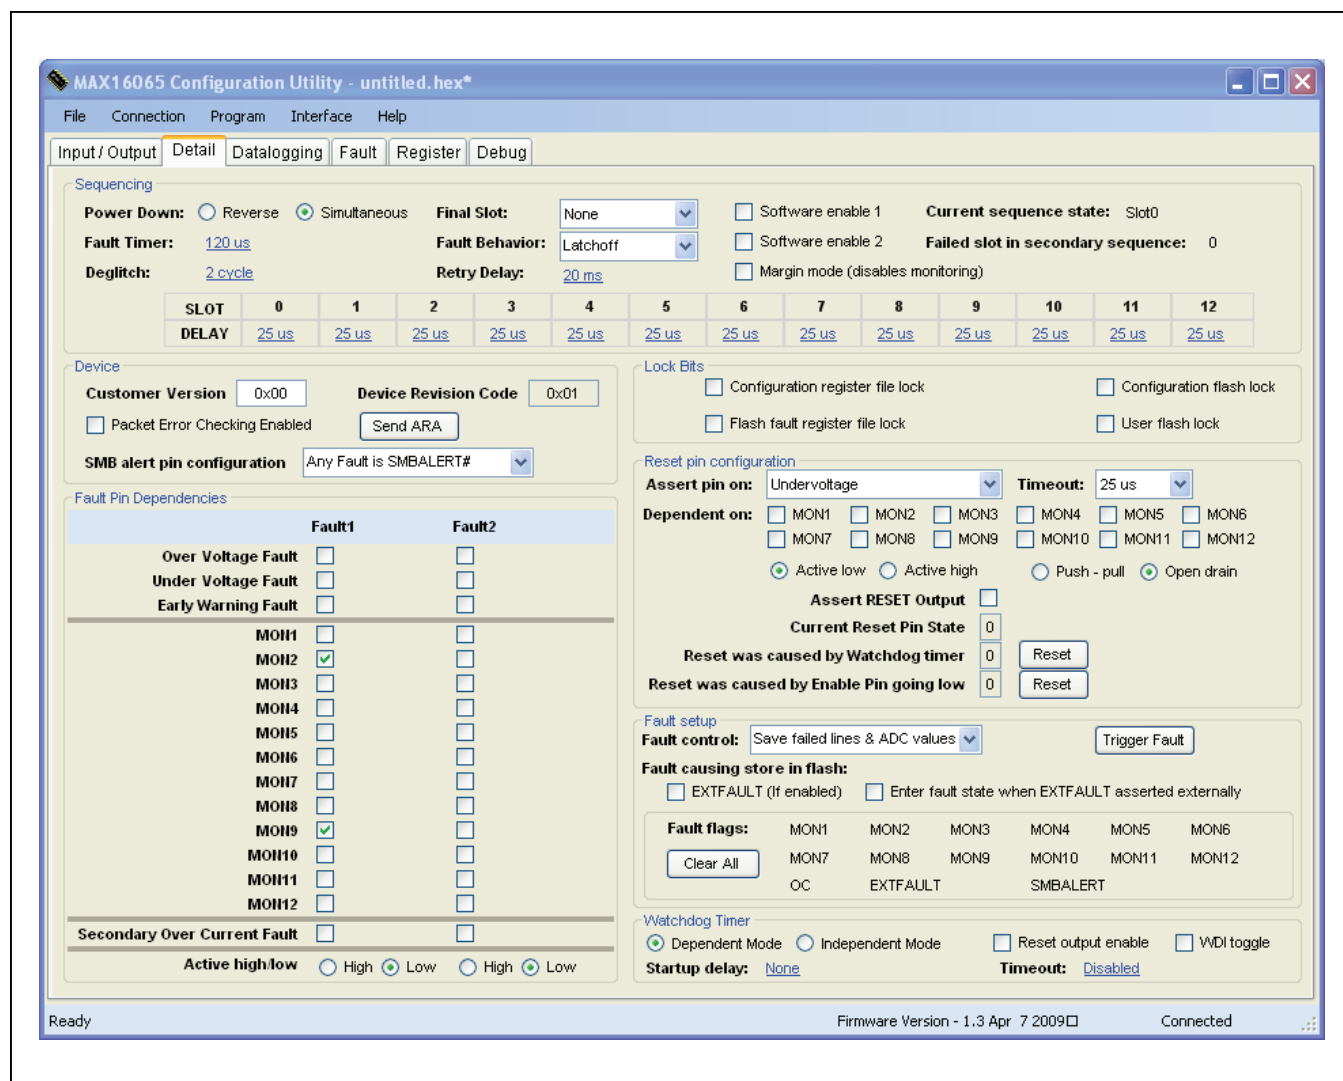

Figure 3. Detail Tab
The device can control up to 12 power supplies using their enable inputs or (on up to 8 of those supplies) series-pass n-channel MOSFETS in series with the power-supply outputs. Set the output type and polarity using the **Output Type** column drop-down lists. The charge-pump setting is available only on EN\_OUT1–EN\_OUT8. Set the sequencing slot assignment or configure the EN\_OUT\_ as a general-purpose input or output (EN\_OUT9–EN\_OUT12 only) using the **Sequence Slot** column drop-down lists. The sequencer begins at slot 1 and steps through each sequencing slot until power-up completes. Each output turns on at the appropriate time slot. Set the sequence delays on the **Detail** tab sheet (Figure 3).
The **Detail** tab sheet (Figure 3) contains additional configuration options for the device relating to fault behavior, sequencing, lock bits, the watchdog timer, and the reset output.
**PEC Enabled** enables packet error check capability for the SMBus host interface. The device must be configured for PEC capability using the **Packet Error Checking Enabled** checkbox on the **Detail** tab sheet (Figure 3).